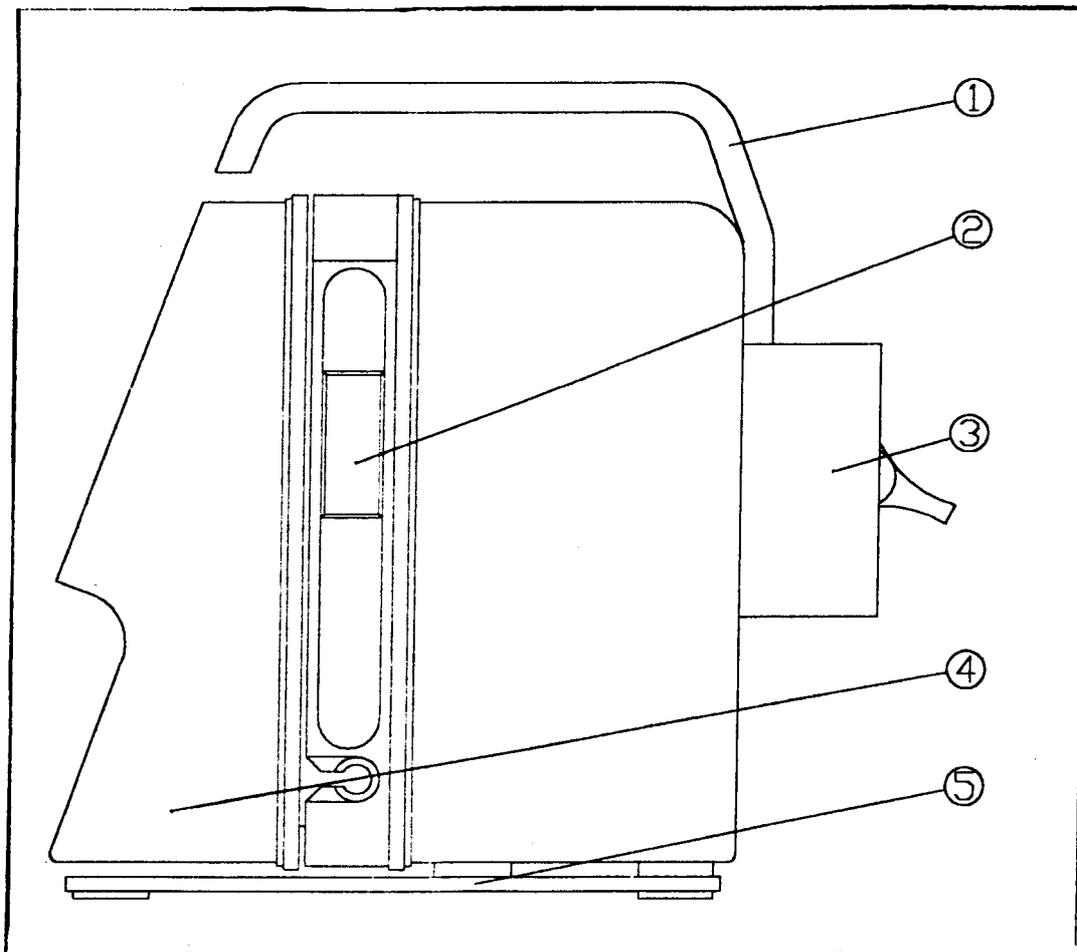

Fig. 3. AP 31P back view
- mount the pump on a stand, bed frame or on any flat surface by the patient, with the use of the jig (2, fig. 3) and screwing knob(3, fig.3)
- plug the pump to an AC 220V outlet using the supplied cable with adapter, connect to the power jack of the pump (8, fig.3) - which should make the "MAINS" green indicator light-up fig.6
- connect the drop detector to the detector jack at the rear of the pump (5, fig.3) - push softly in and turn right the hoop for secure connection. Position the drop detector temporarily on the pump handle